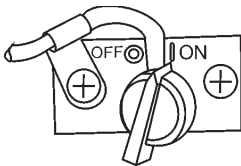

Figure 6. On Off Switch
2. Set the engine ON/OFF switch (Figure 6) to the "ON" position (start).
3. After the engine **cools**, turn the engine start/stop switch to the "OFF" position (Figure 6).